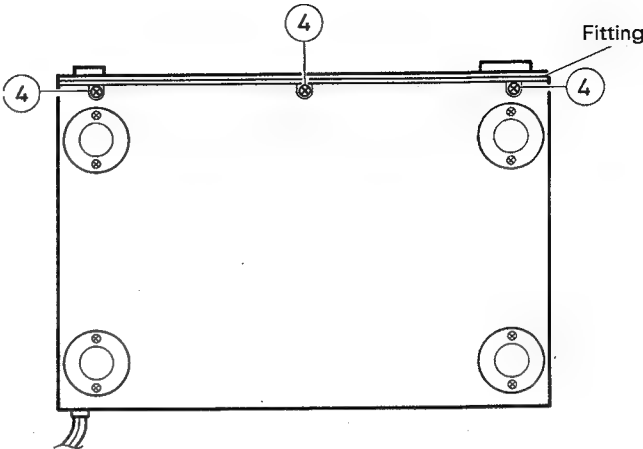

Fig. 2-3
1. Remove the screw (3) retaining the center of the front plate.
2. Remove the three screws (4) retaining the bottom plate fitting on the bottom (see Figure 2-3).
3. Press the two points (A) on the mold section to remove the catches on the inner side of the front cover and then remove the front cover towards you.